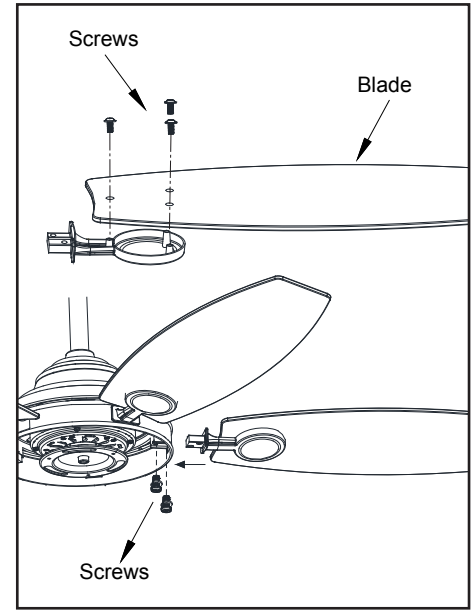

Figure 12
1. Attach a blade to the blade bracket using the screws supplied and tightened firmly.(Figure 12)
2. Attach the blade assembly to the fan motor housing by inserting the blade assembly into slots in the side of the fan motor housing using the screws supplied and tightened firmly. (Figure 12)